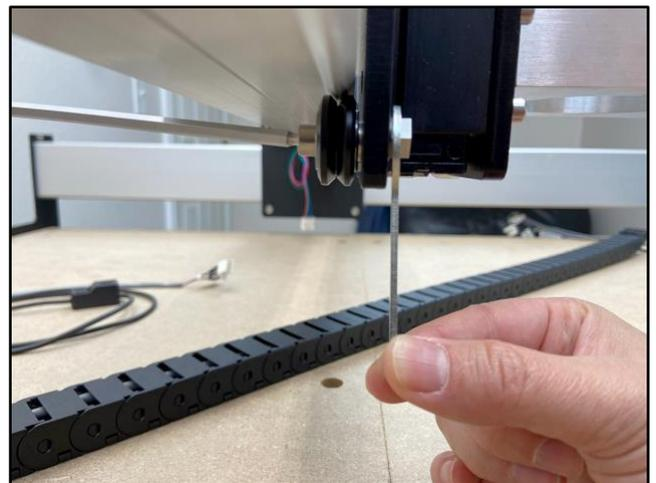

Figure 23
2. Re-install the bottom two V-wheels you removed in the “Assemble the Z-Plus — Back” section. See **Fig. 23**.